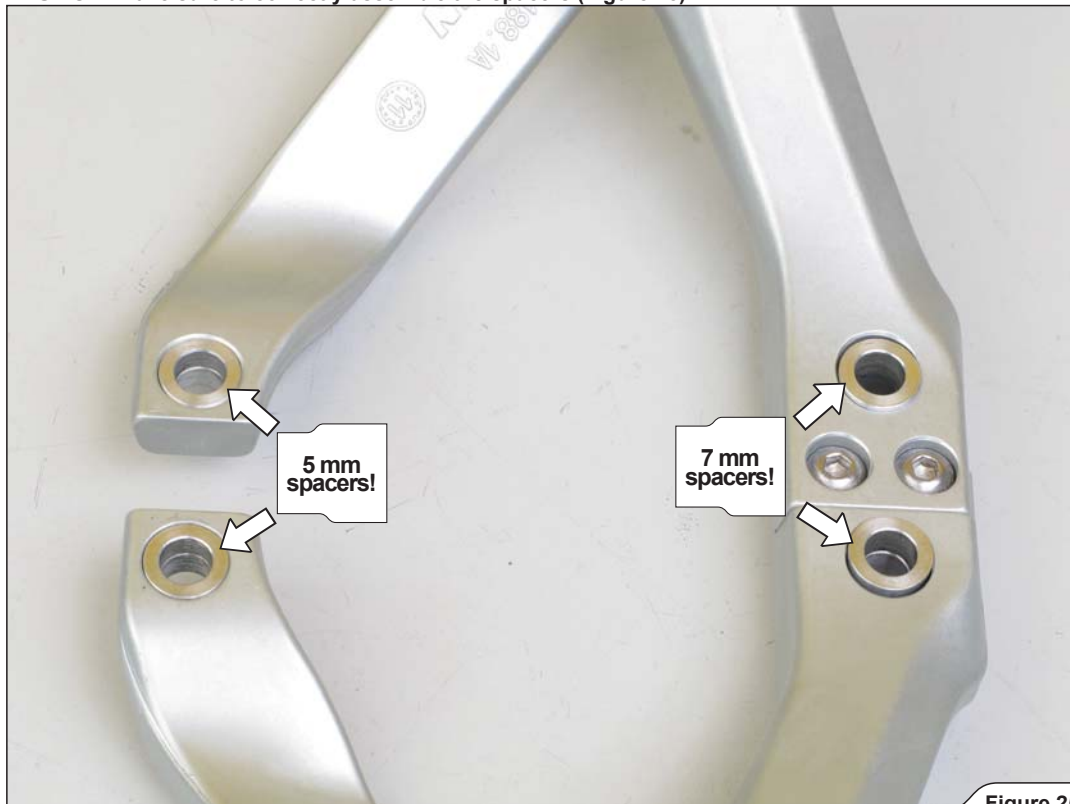

Figure 25
5. **For use of passengers foot rests only:** install the heat shield and passengers foot rests onto the sub-frame using spacers, bolts and washers from Akrapovič installation kit (**Figure 25, 26, 27**).
! CAUTION: make sure to correctly assemble the spacers (**Figure 25**)!